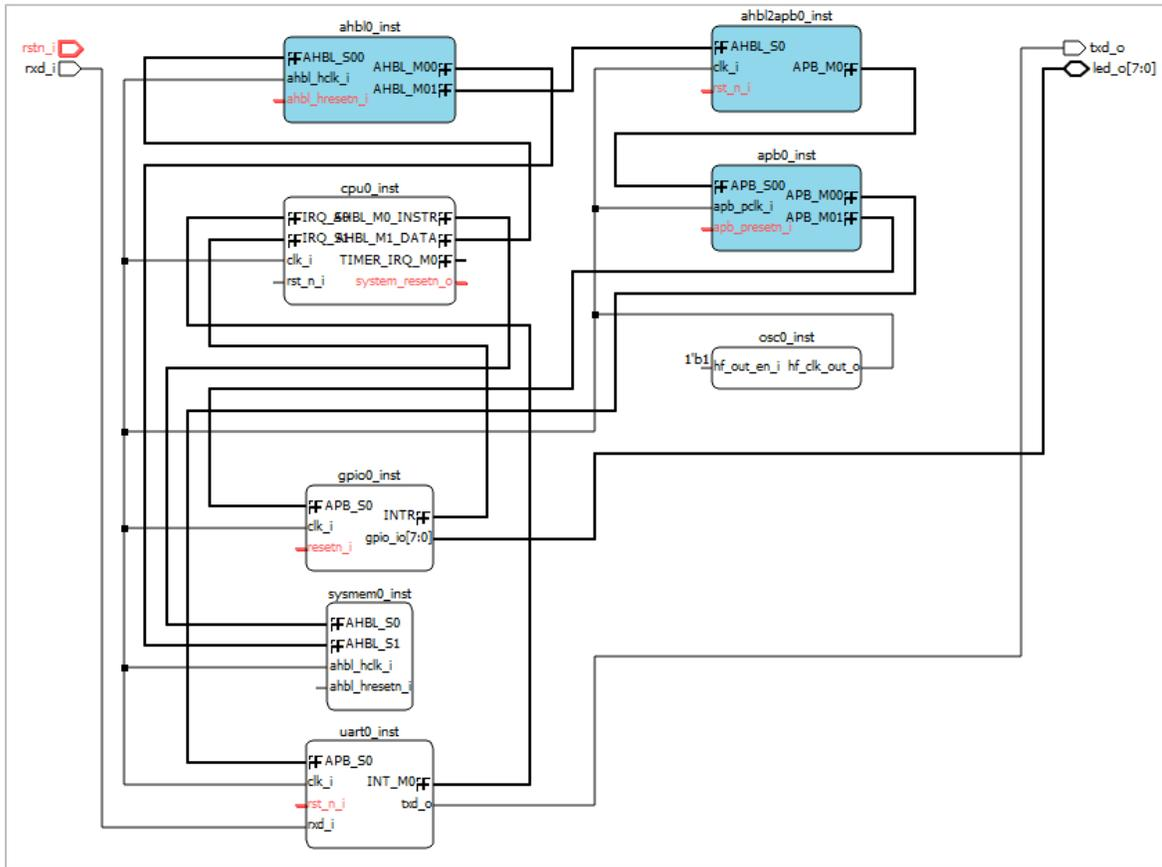

Figure 2.54. Select More than One Ports
- You can connect multiple ports once. When more than one port is selected (Figure 2.54), click **connect**  from the right-click menu to implement it.